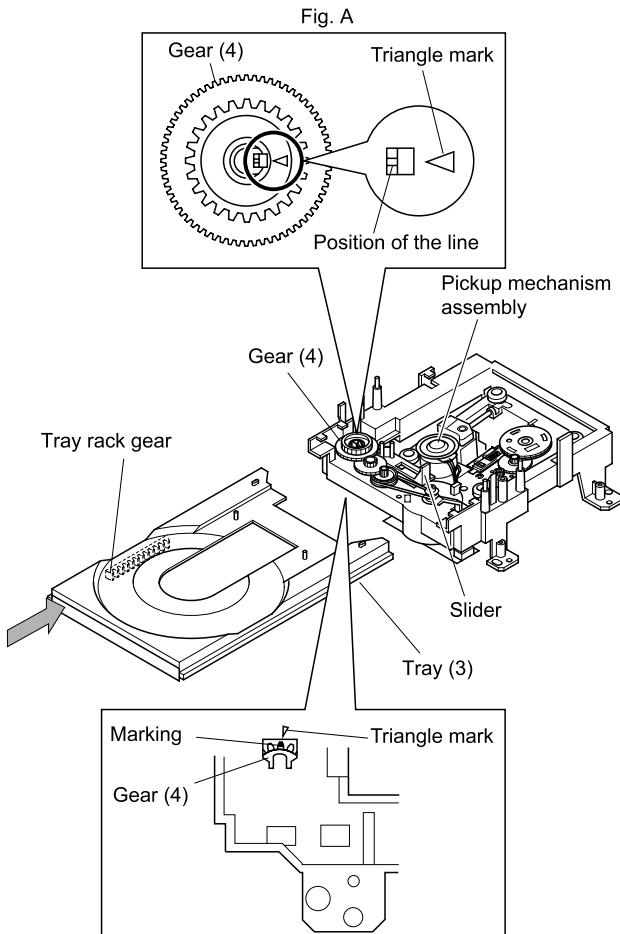

Fig. 2.1.7
- Insert the tray (3) with the front side of the pickup mechanism assembly descended. (The slider positions to the left side.)
- The gears are required to match their phases each other. After setting the gear as shown in the Fig. A, insert the tray (3). When inserting a tray (3), push the rack gear side shown by the arrow. (Refer to Fig. 2-1-7.)
- Confirm that the marking of the gear (4) matches with the triangle mark on the reverse side of the tray in the tray close status. (The gear is rotated with the slider locks.) (Refer to Fig. B.)